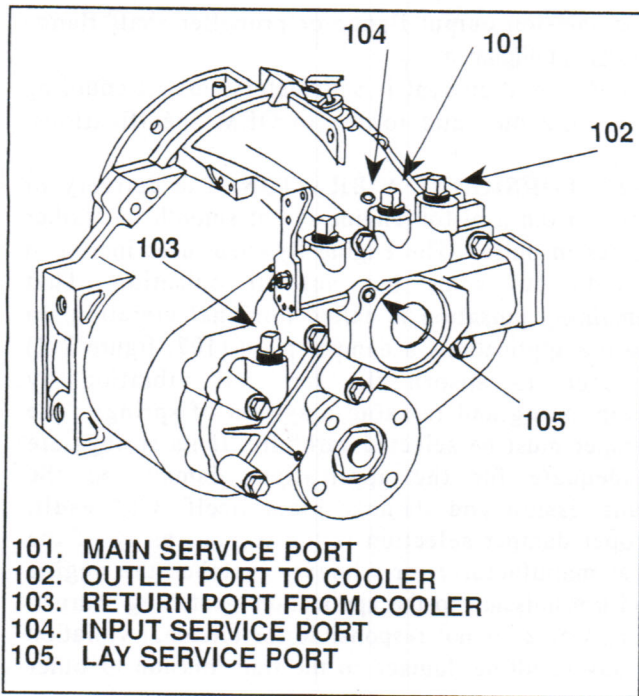

Figure 2-5. Service Port Locations
**2-18. CONTROL VALVE AND PUMP ASSEMBLY PRESSURE TEST.** Perform the following test to determine if the control valve and pump assembly is functioning properly (see figure 2-5):
1. Check fluid level as described in paragraph 2-5 and adjust level as required. Disconnect the propeller shaft (109) from the transmission output flange (18) and separate the flanges completely.
2. Remove the sensor or plug installed in the sensor port (101) and install 0-100 psi (690 kPa) gauge in 3/8- 18 NPSF thread port. Remove to-cooler hose from outlet port (102) and install a minimum 10 gal/min (38 lt/min) flow meter. Be careful to follow the flow meter manufacturer's instruction. (see figure 2-5)
4. Pressure in sensor port (101) should read 10-50 psig (68-345 kpa). Flow meter should indicate 0.45gpm to 3.96 gpm (117 lt/min to 15 lt/min).
5. Increase engine speed to 2400 rpm, pressure in port (101) should read 15-70 psig (103-483 kPa). Flow